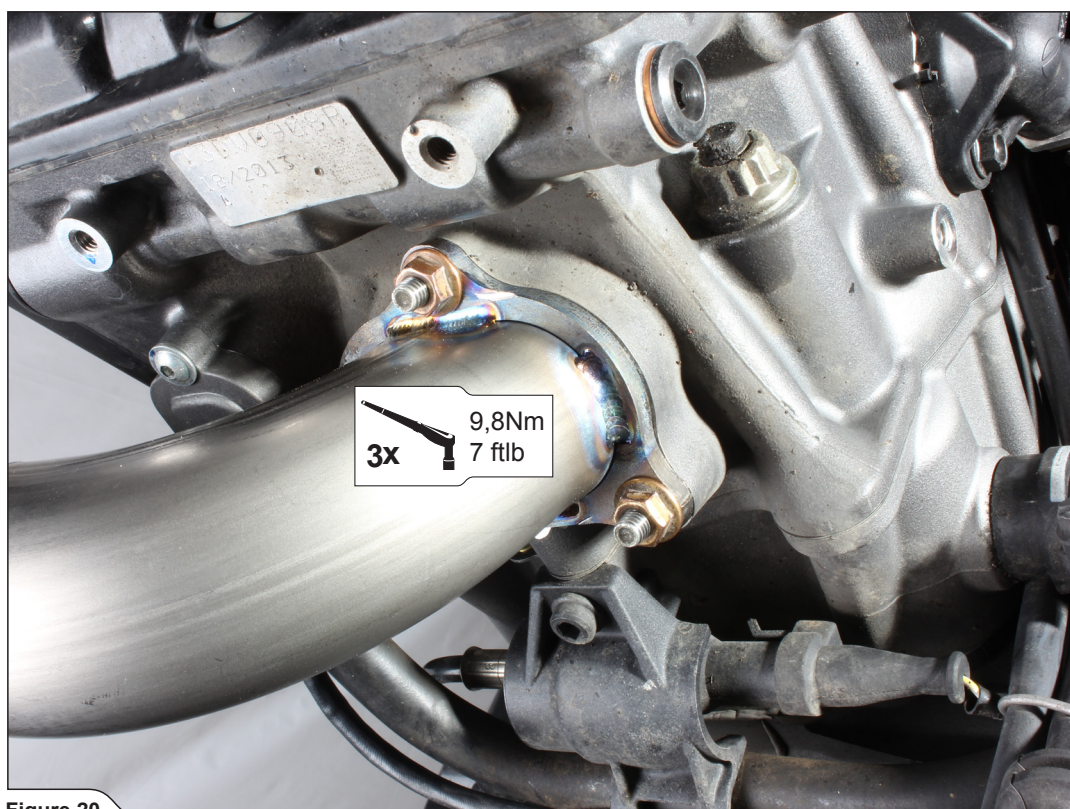

Figure 20
7. Tighten the front header to the specified torque (**Figure 20**).